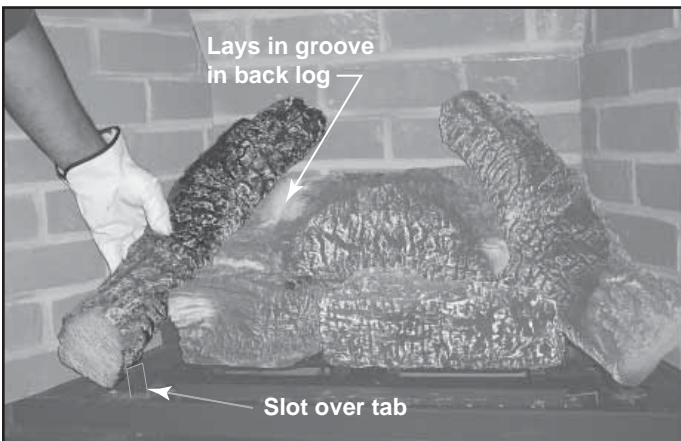

Figure 15.11 Position Log #4061-175
- Place this log in the left-hand groove in the back log and the tab as shown. See Figure 15.11.